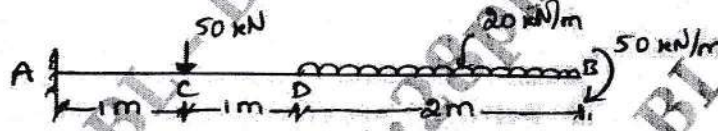

Fig.Q6(a)
- 6 a. Sketch SFD and BMD for the beam shown in Fig.Q6(a), indicating salient points.